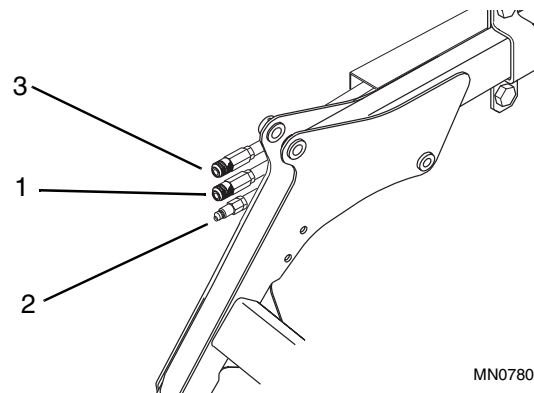

Figure 4-65 High Flow Couplers
1. The center female coupler (Fig. 4-65, 1) is used to connect the high flow system pressure to an attachment.
2. The lower male coupler (Fig. 4-65, 2) is the high flow system return from the attachment.
3. The top female coupler (Fig. 4-65, 3) is not required for all applications. When connecting certain hydraulic motors to the high flow system, a third line from the motor (the motor case drain) will be connected to the top coupler (3).